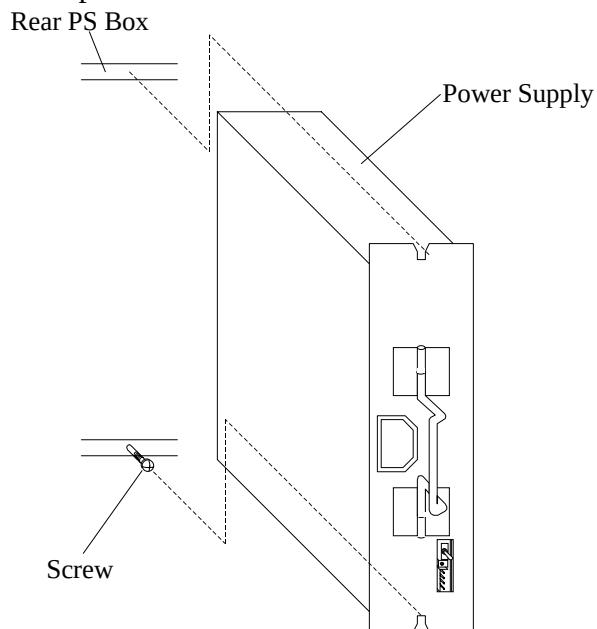

Fig. 4.5-3 Removal of Power Supply
- a. Loosen the screws and remove the Additional Power Supplies. Refer to Fig. 4.5-3.